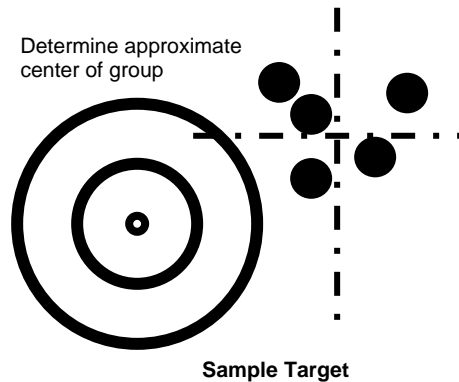

Figure 2-7: Determine approximate center of group
3. Determine the approximate center of the group (Figure 2-7).